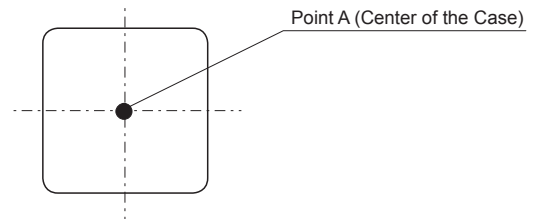

Fig.7.1 Temperature Measuring Point on the case (Top View)
- Please have sufficient ventilation to keep the temperature of point A in Fig.7.1 at 105°C or below.